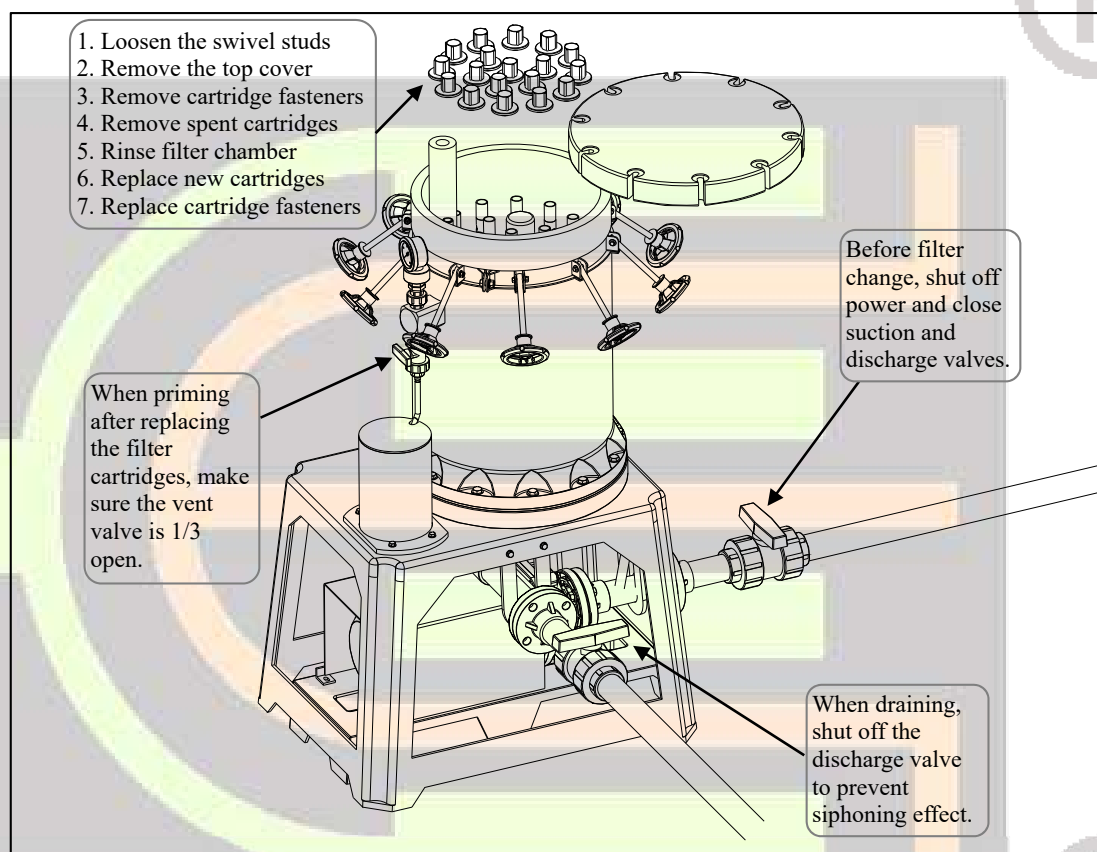

Fig. 4.1
(2) Table 4.2 shows the maximum pressure drop for changing the filter media. If the filter system is to be operated beyond the recommended pressure drop, please note that the flow rate will be very small and the filtration efficiency will drop. Make sure the flow rate must not drop below the minimum flow rate for the pump used.
(3) Above pressure drop recommendations is based on Meltblown filter cartridge of PP material for a chemical with a viscosity of 1 cP.
4.3 Procedure for Changing the Filter Media (Refer to Table 4.3, Fig. 4.1)